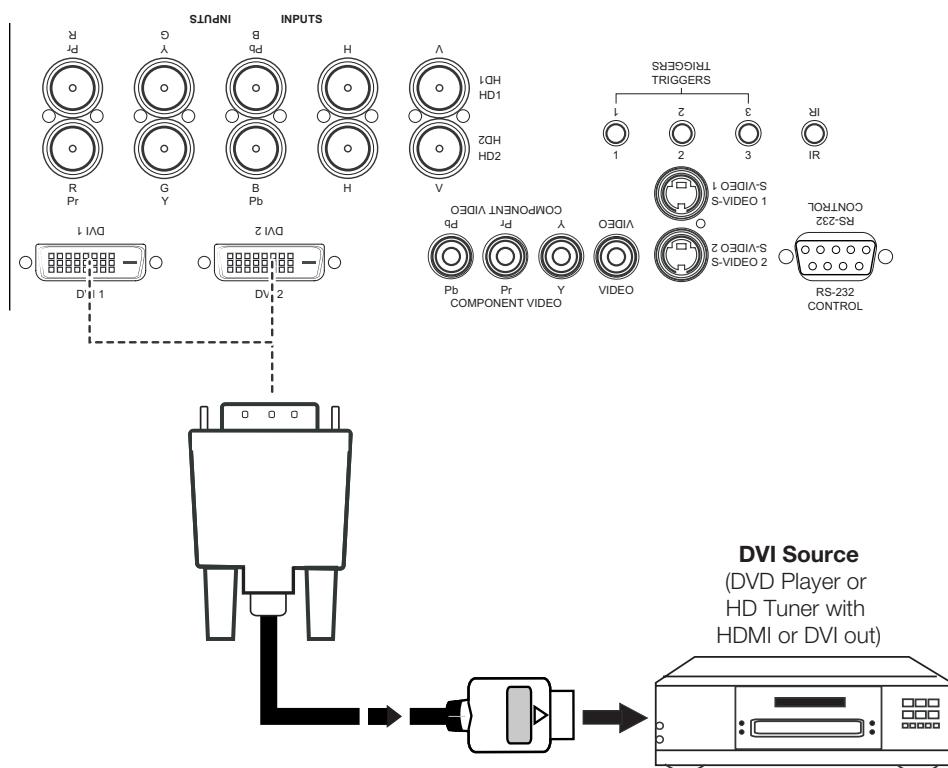

**Figure 3-6. DVI Source Connections**
**DVI Connections:** See Figure 3-6.